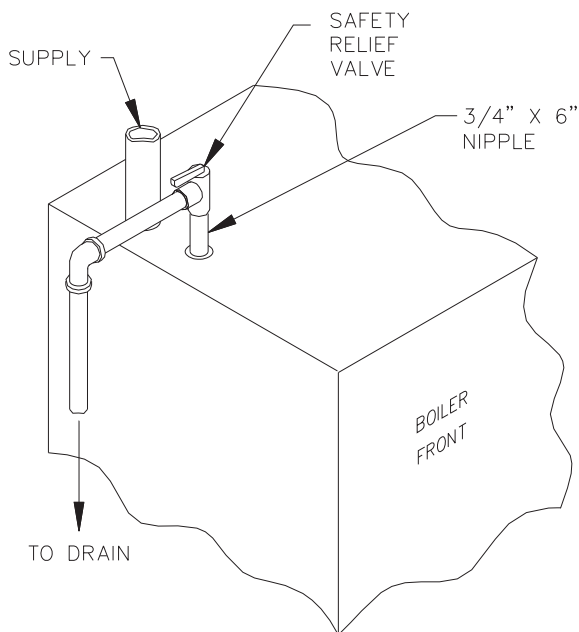

Figure 2: Safety Relief Valve Hook-Up Installation with Air Elimination in System Piping
6. **Safety Relief Valve.** A device which protects the boiler against excessive pressure. The safety relief valve can discharge a large amount of hot water - the installer should provide piping to discharge water near floor at a floor drain. See Figures 2 and 3. If the safety relief valve discharges water, follow instructions TO TURN OFF GAS TO APPLIANCE (see Figure 4), and contact a qualified service agency.